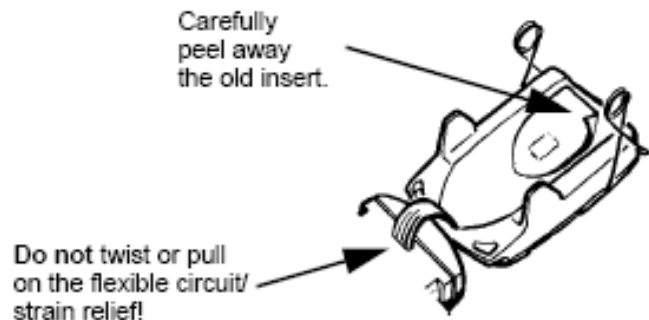

Figure 9. Removing the old gripping insert.
2. Carefully peel the old gripping insert away from the surface (Figure 9).